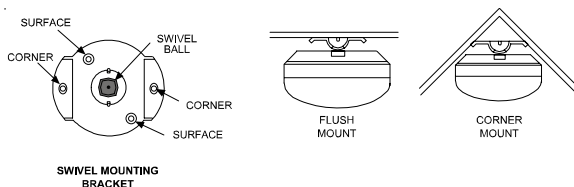

Figure 6
- If not mounting in a corner, the corner mount tabs may be removed (Figure 6).